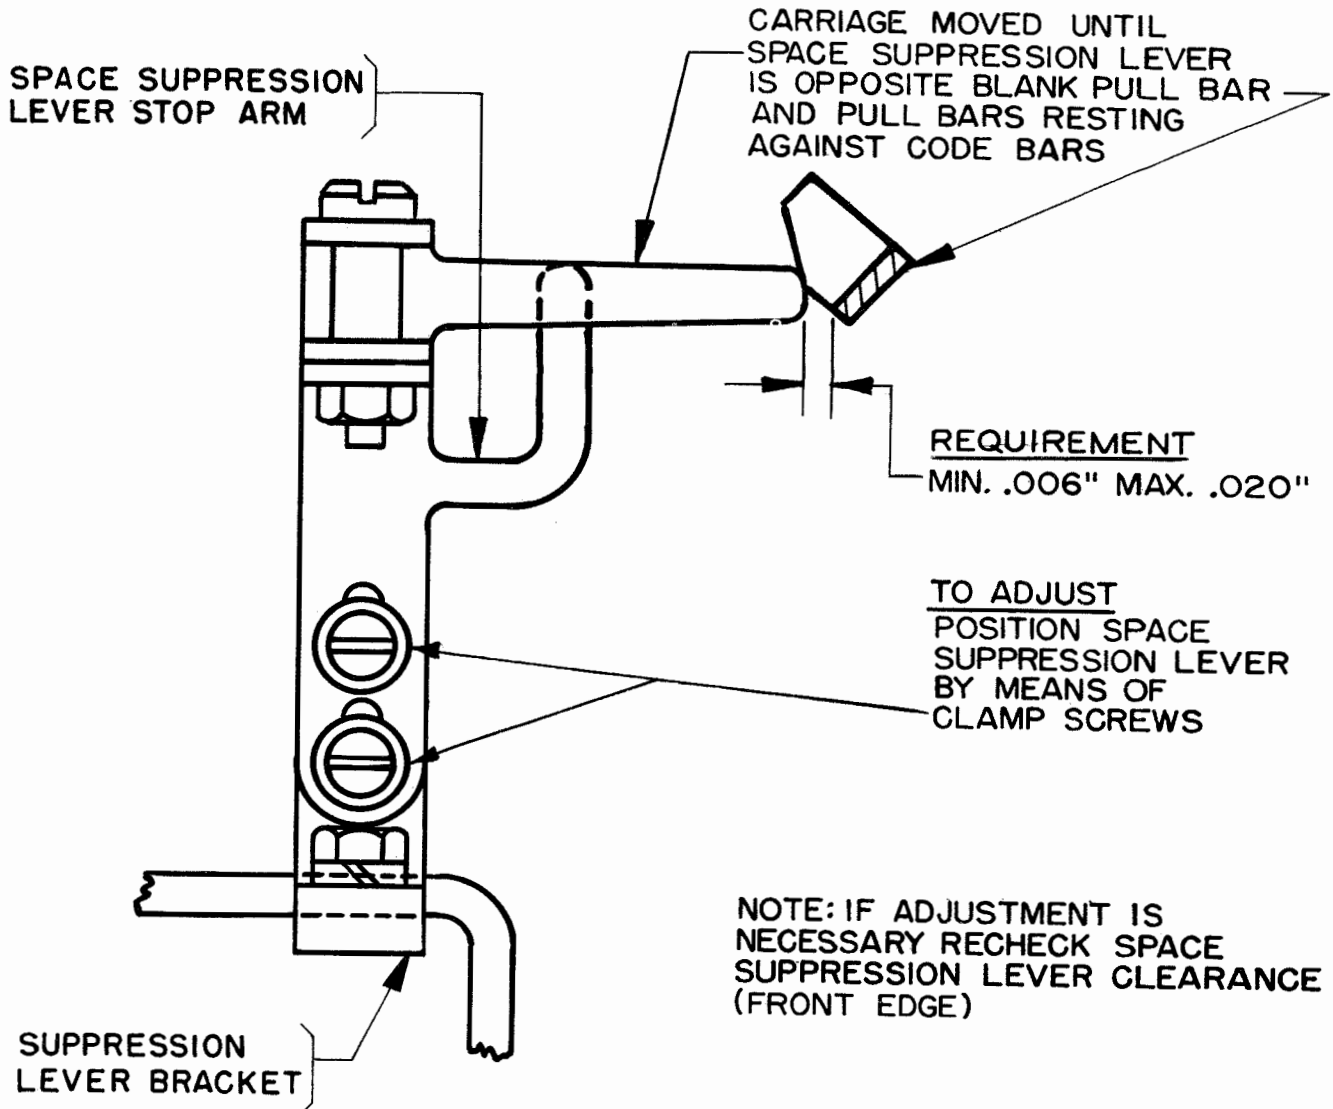

Figure 11
- 4.04 Space Suppression Lever Clearance (End): (See Figure 11.)